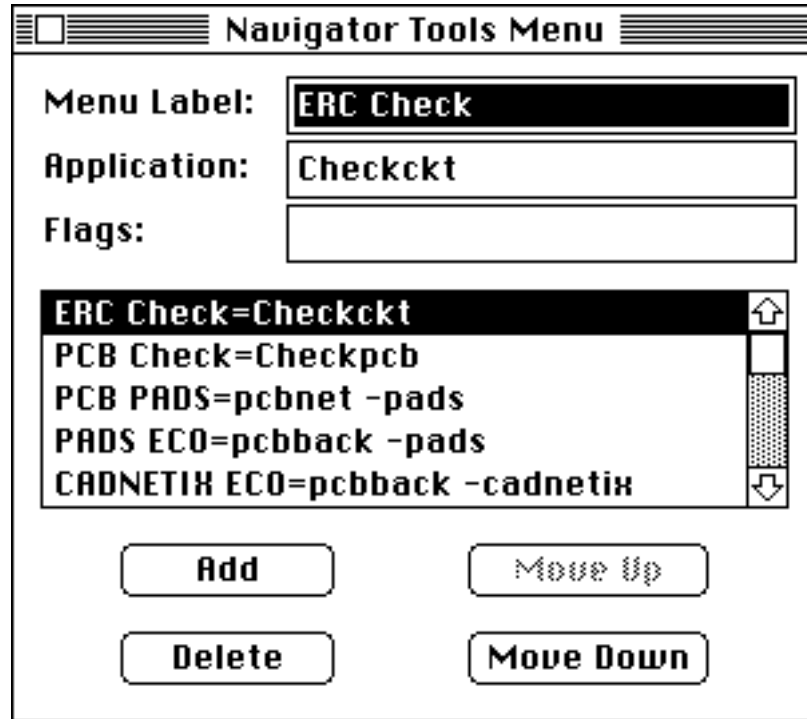

Figure 7-1 *Tools->Navigator Tools Dialog Box of ECS Preferences Editor*
3. Select the **Tools->Navigator Tools** menu. The dialog box in Figure 7-1 is shown.